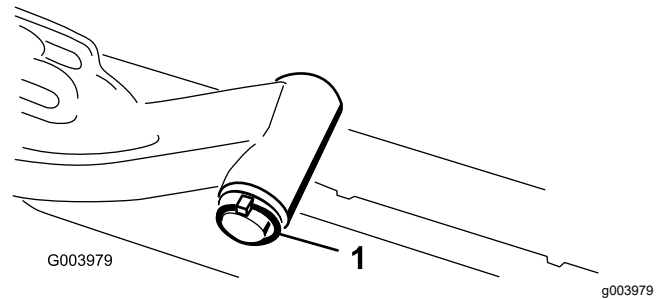

Figure 8
- A. Remove the lynch pin and washer securing the lift-arm pivot shaft to the lift arm and slide the lift-arm pivot shaft out of the lift arm (Figure 8).
- C. Insert the lift-arm shaft into the lift arm and secure it with the washer and lynch pin (Figure 8).